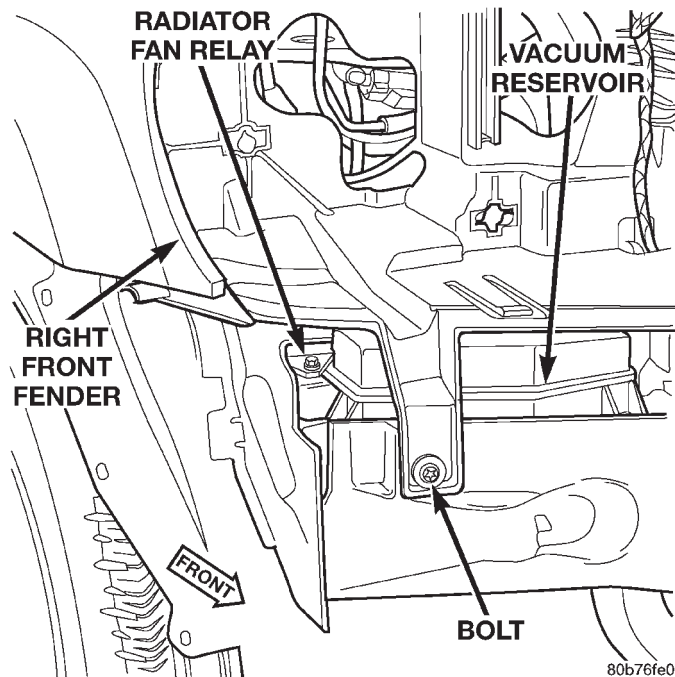
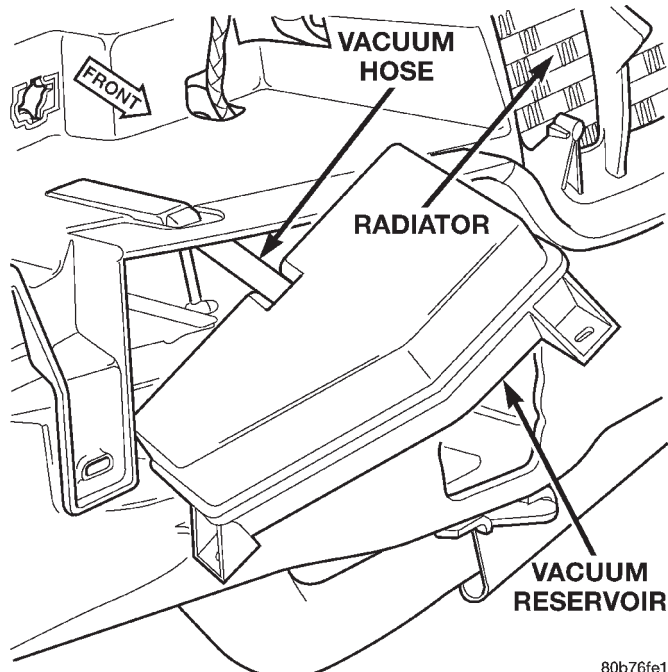

Fig. 37 Radiator Cooling Fan Relay Location
Fig. 38 Vacuum Reservoir Removal/Installation
The Pulse Width Modulated (PWM) cooling fan relay is located below the right headlamp behind the bumper fascia (Fig. 37).
(2) Remove 1 support bolt near front of reservoir (Fig. 37).
(3) Remove 2 reservoir mounting bolts.
(4) Remove reservoir from vehicle to gain access to vacuum hose (Fig. 38). Disconnect vacuum hose from reservoir fitting at rear of reservoir.